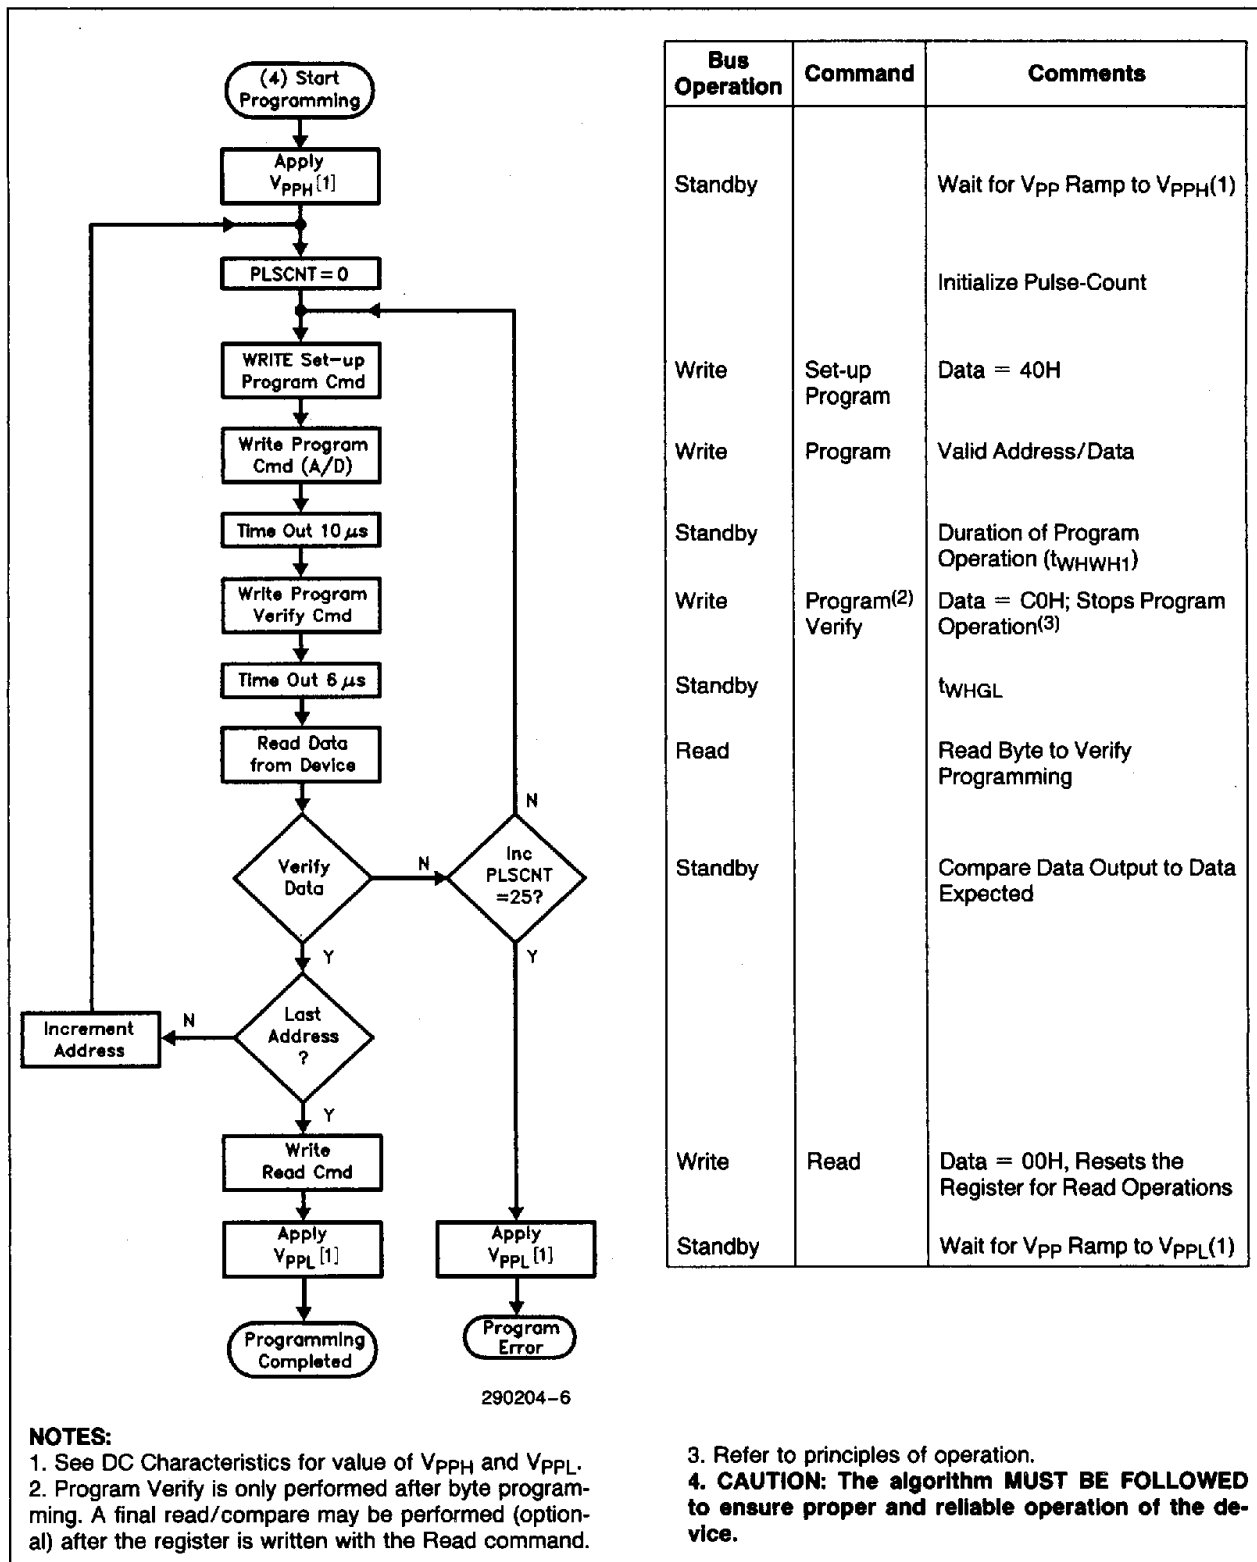

Figure 4. 28F512 Quick-Pulse Programming Algorithm
- Figure 4 illustrates the Quick-Pulse Programming algorithm.
The 28F512 applies an internally-generated margin voltage to the byte. A microprocessor read cycle outputs the data. A successful comparison between the programmed byte and true data means that the byte is successfully programmed. Programming then proceeds to the next desired byte location. Figure 4, the 28F512 Quick-Pulse Programming algorithm, illustrates how commands are combined with bus operations to perform byte programming. Refer to AC Programming Characteristics and Waveforms for specific timing parameters.
The Quick-Pulse Programming algorithm uses programming operations of 10  $\mu$ s duration. Each operation is followed by a byte verification to determine when the addressed byte has been successfully programmed. The algorithm allows for up to 25 programming operations per byte, although most bytes verify on the first or second operation. The entire sequence of programming and byte verification is performed with  $V_{pp}$  at high voltage. Figure 4 illustrates the Quick-Pulse Programming algorithm.